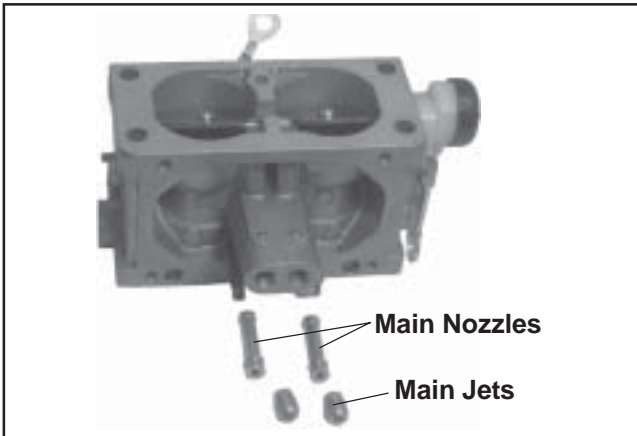

Figure 5-51. Main Jets and Nozzles Removed.
3. Use an appropriate size flat screwdriver, and carefully remove the two main jets from the carburetor. Note and mark the jets by location for proper reassembly. The main jets may be size/side specific. After the main jets are removed, the main nozzles can be removed out through the bottom of the main towers. Note the orientation/direction of the nozzles. The end with the two raised shoulders should be out/down adjacent to the main jets. Save the parts for cleaning and reuse. See Figure 5-51.